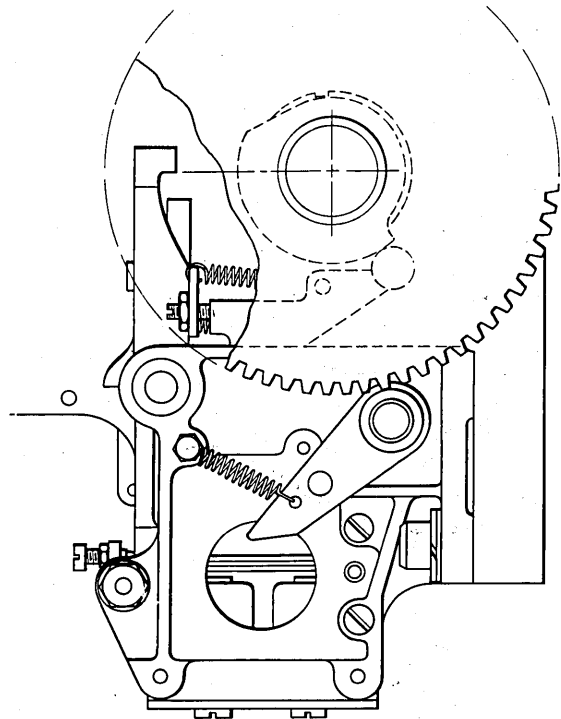

Figure 4-1. Punch Clutch Position
1. Set clutch so that latch arm is on the horizontal centerline of picker camshaft within .005" (Figure 4-1).